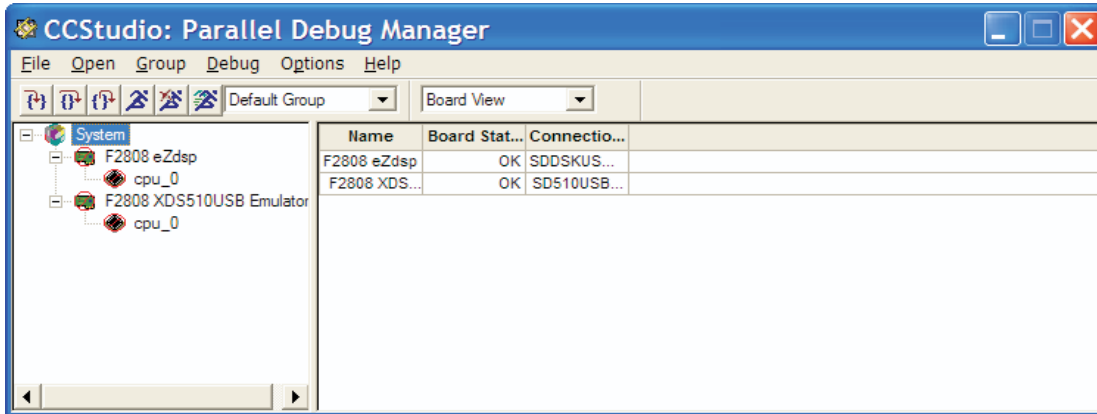

Figure 5. Heterogeneous Parallel Debug Manager
1. Launch the Code Composer Studio software. As shown in Figure 5, the parallel debug manager screen appears when there are multiple DSP's on a system.